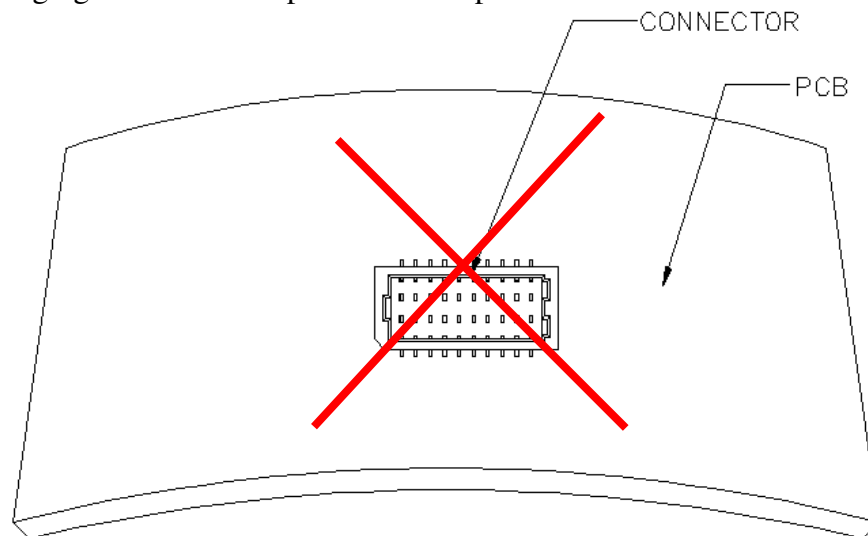

Figure 1.
- Exercise caution when handling boards with the connectors installed. Do not apply any forces affecting soldered joints. (see figure 1).
- The mounting specification for coplanarity does not include the influence of warpage of the printed circuit board. (see figure 1).